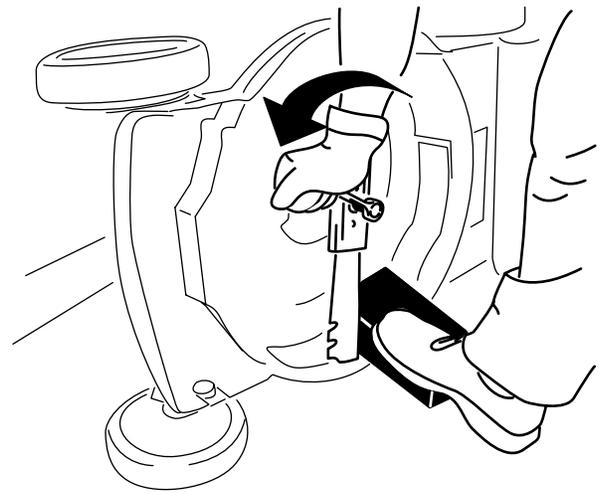

Figure 22
2. Use a block of wood to hold the blade steady (Figure 22).
3. Remove the blade, saving all mounting hardware (Figure 22).